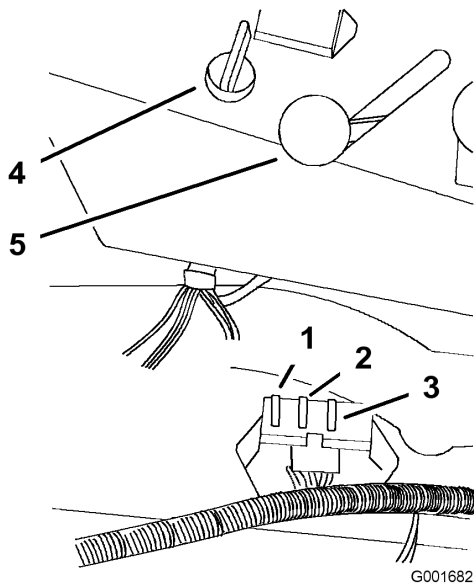

Figure 41
1. Raise the seat to gain access to the fuse holder (Figure 41).
3. Install a new fuse (Figure 41).